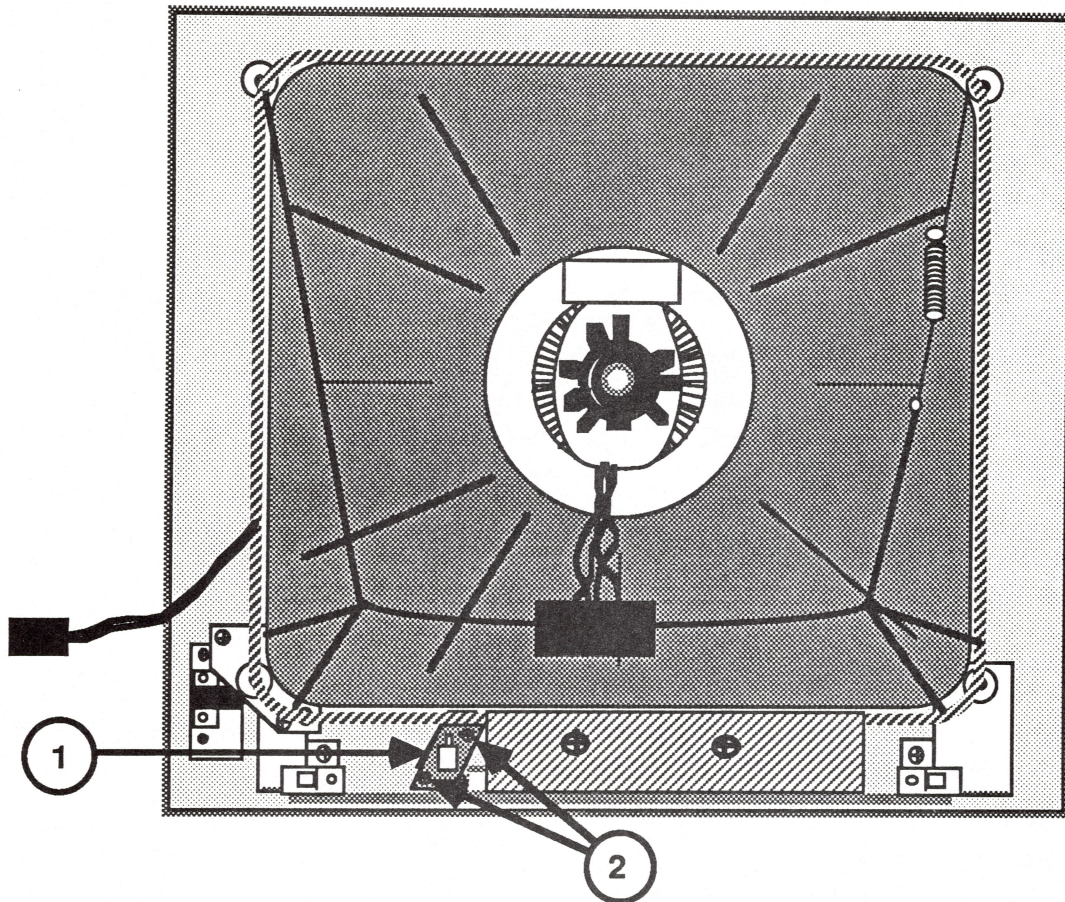

FIGURE 21
5. Locate the White Only switch (Figure 21, #1).
6. Remove the two screws (Figure 21, #2) that secure the switch plate to the front bezel.
2. Set the switch into the front bezel so that the plastic post protrudes through the hole in the switch plate (Figure 21, #1).
3. Replace the two mounting screws (Figure 21, #2).